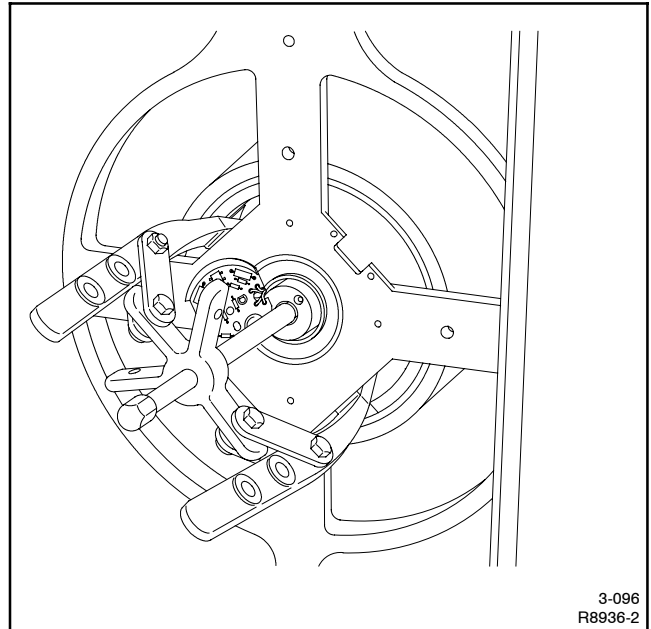

Figure 3-20 Removing End Bracket
5. Use a puller tool to remove the end bracket. See Figure 3-20.